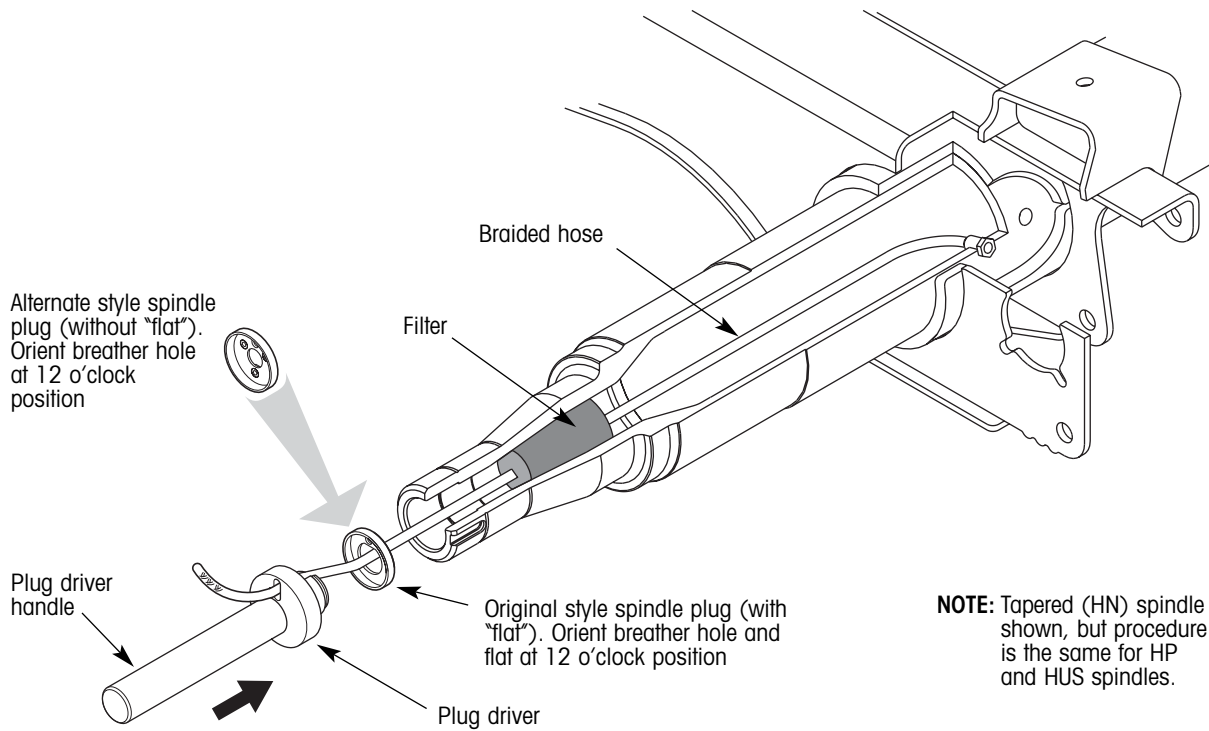

Figure 9. Spindle plug installation
- Spindle plug driver and handle (figure 9), unless plugs are already installed in the axle from the factory
1. On one end of the axle, route the end of the braided hose through the center of the spindle plug (figure 9).